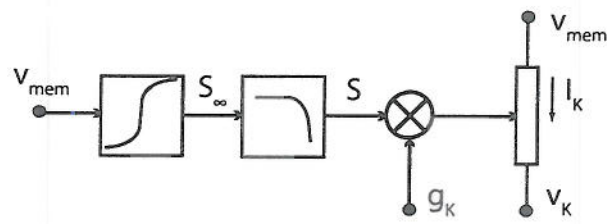

Figure 6.2
- b) Figure 6.2 shows a generalised ion channel model of a neuron in the Hodgkin and Huxley formalism. The activation variable (s_∞), time activation (ds/dt), and ion-current of the channel (I_K), are given by the following equations:
Using a suitable circuit which gives this relationship and the results of part a and b or otherwise sketch the full circuit schematic of the ion channel shown in Figure 6.2.